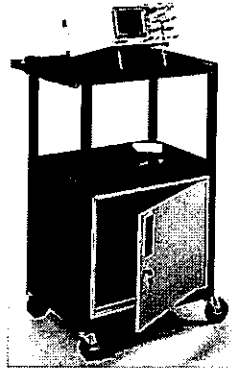

Figure 18: Example of mobile instruments cart*
- 5.4 Mobile Instruments Carts with Steel Cabinet with dimensions greater than or equal to 18 "x 24" with 3 shelves (example in Figure 18) (5 sets)